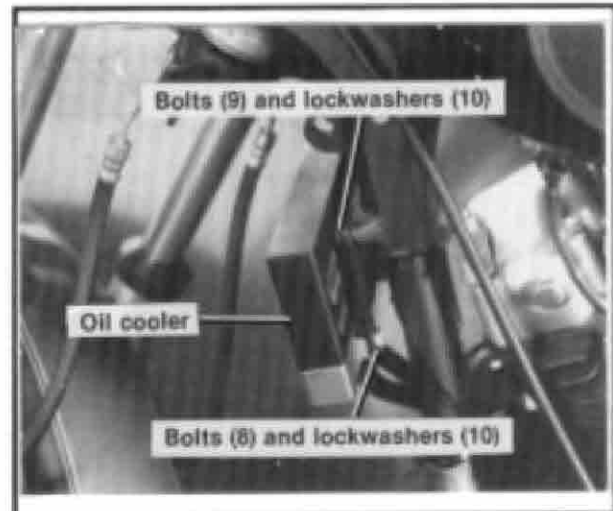

Figure 1. Oil Cooler Mounting (XL)
1. See figure 1. Two tapped holes can be found in the area beneath the steering head where the front